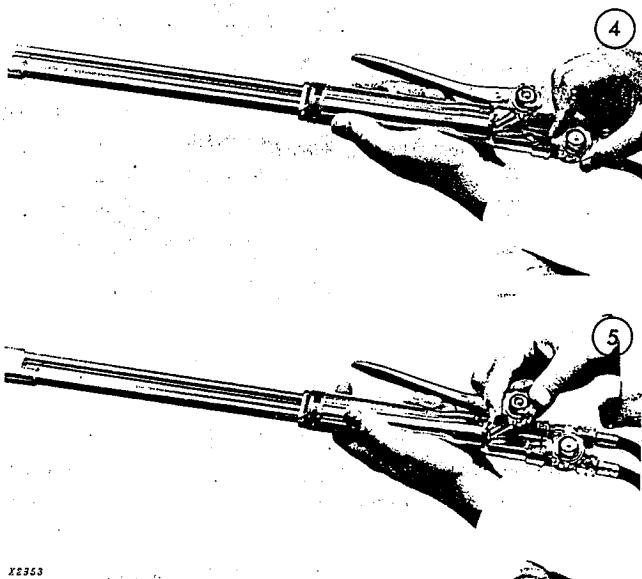

Fig. 82 — Opening The Cutting Torch Valves
4. The bottom wheel valve normally controls the flow of acetylene or fuel gas (Fig. 82, top). (This corresponds to the fuel valve on the welding torch.)